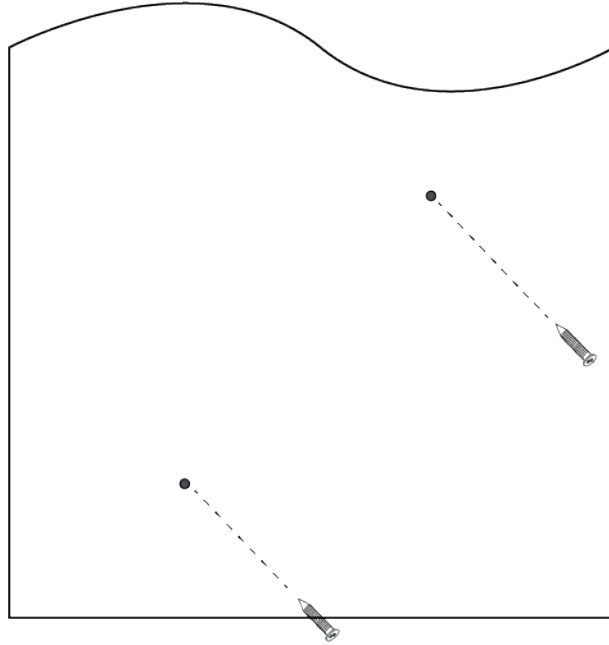

Figure 16. Installing Two Screws
5. Install two M4 screws and anchors (if required). Leave the screws loose enough so that the bracket can slide under the screw heads. Refer to Figure 16.